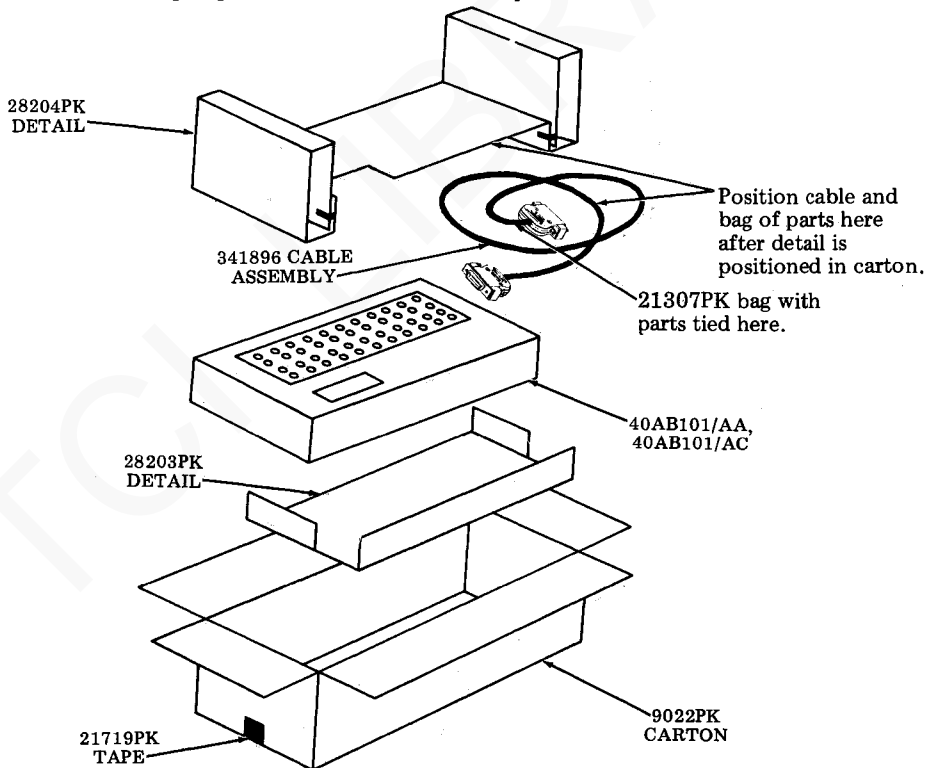

Fig. 39
- Step 2. Form a 28203PK corrugated detail and position against answer-back as illustrated in Fig. 39. The tabs on the ends of the detail must be positioned in the slots on either end of the answer-back.
- Step 2. Place one 28327PK corrugated pad on top of the keytops. Tape securely to keyboard with two pieces of 21632PK tape (one piece across the length and one piece across the width of the pad). (See Fig. 39.)